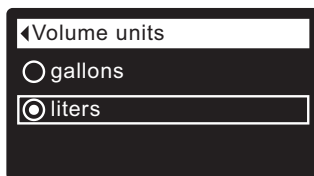

FIG. 66
5. Press the SELECT (O) button to display the Volume units menu (See Figure 66).
6. If the desired volume unit already has a dot next to it (See Figure 66), go to Step 7. Otherwise, press the DOWN (▼) or UP (▲) buttons to scroll to the other volume unit, then press SELECT (O) to choose it.
7. Press the SELECT (O) button. The display will go back to the User preferences menu.